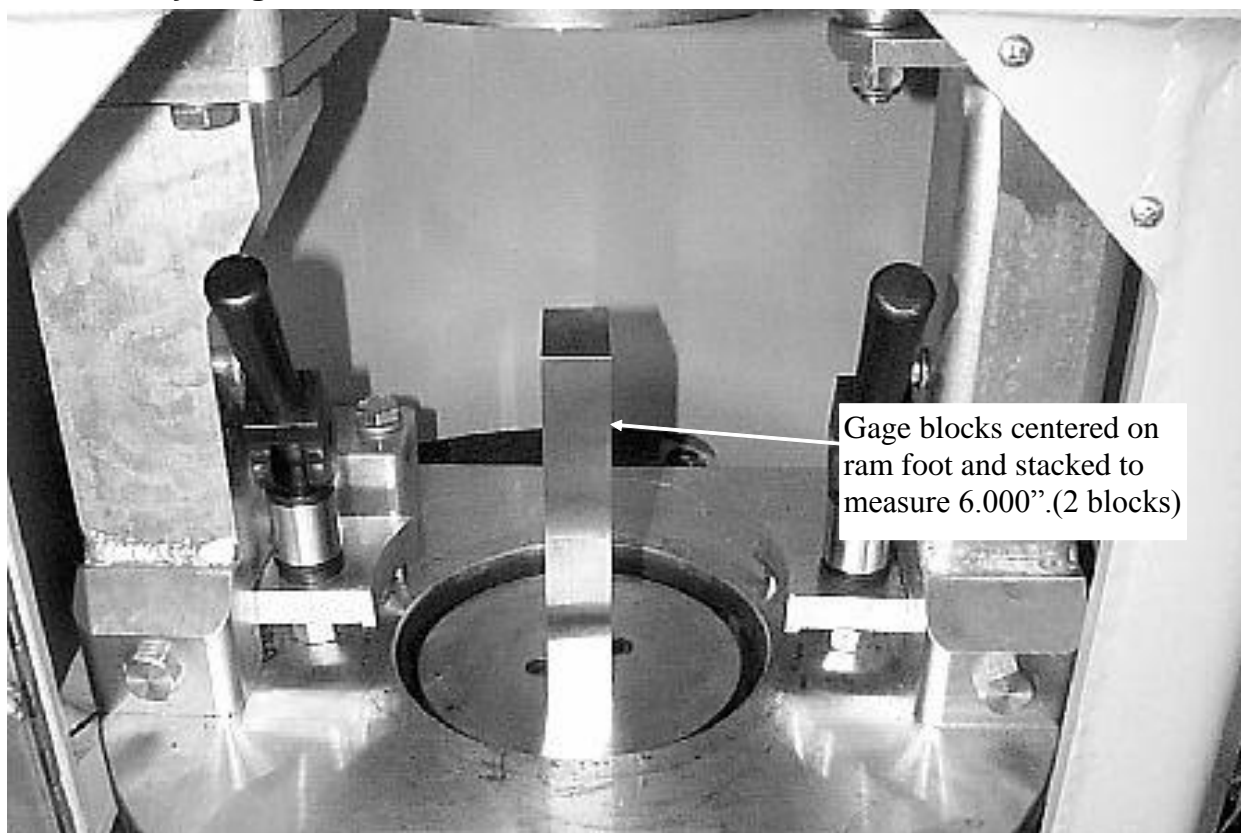

Figure 5.3: Gage block placement
- Place the gage blocks into the compaction chamber configured for 152.4 mm (6.000 inch). (Figure 5.3)